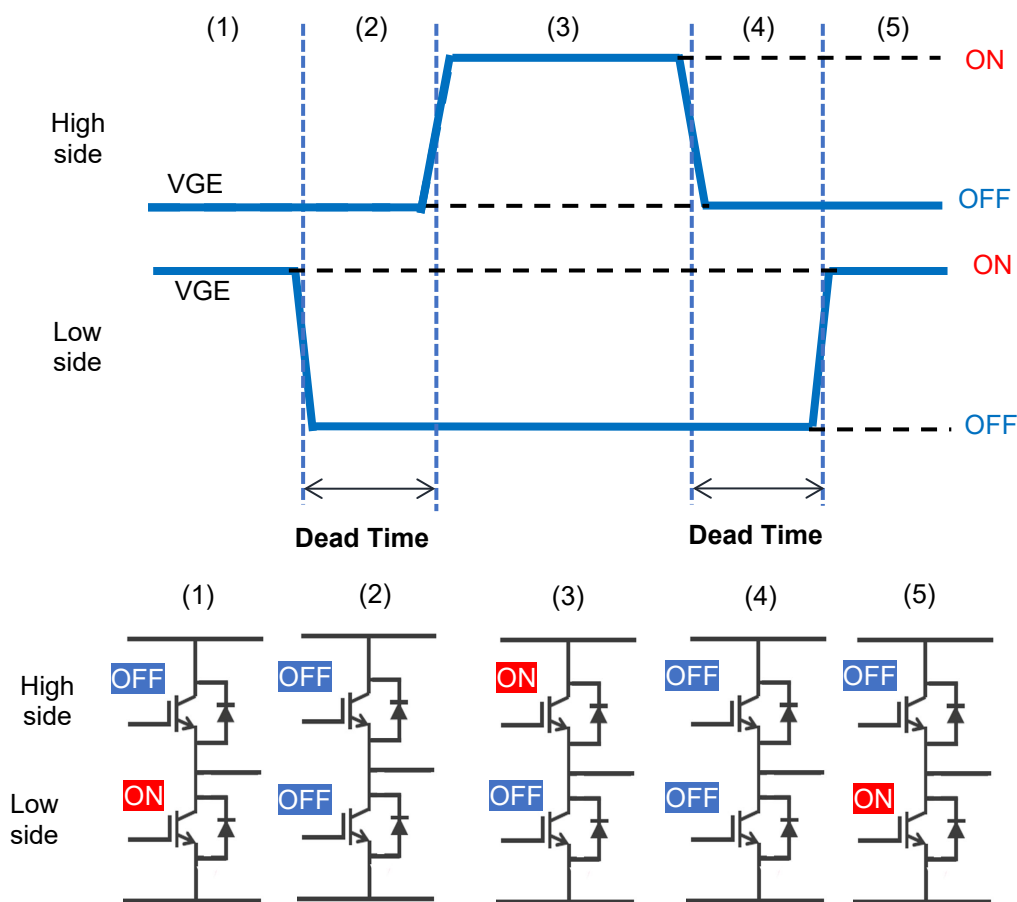

Figure 5-2 Upper/lower Arm On/Off Timing Chart
As a solution, a period called dead time, during which both the upper and lower arms are off, is introduced in inverter circuits to prevent a short circuit between the upper and lower arms. Figure 5-2 shows the timing diagram for dead time. Periods (2) and (4) in the figure represent dead time periods. To prevent short circuits between the upper and lower arms, the dead time should be as long as possible. However, if the dead time is too long, it can increase the distortion of the output AC current waveform, leading to decreased efficiency and other issues. Therefore, the dead time must be long enough to reliably prevent short circuits between the upper and lower arms, but also as short as possible to minimize the latter issues.